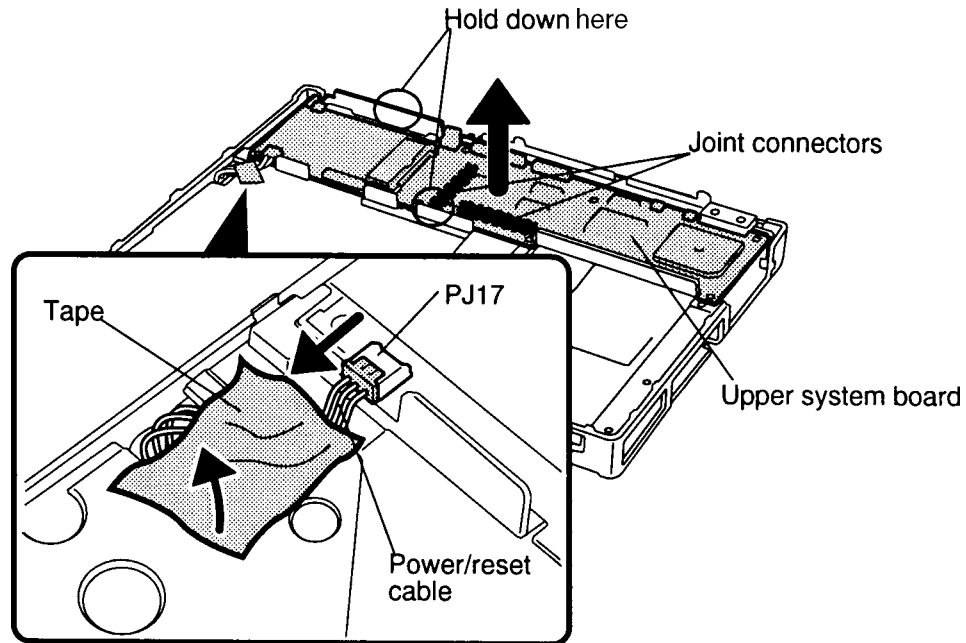

Figure 4-26 Removing the upper system board
5. Remove the **tape** securing the **power/reset cable** and disconnect the cable from **PJ17** on the **upper system board** (Figure 4-26).
7. Hold down the system board's edges circled in Figure 4-26 and carefully lift up the **upper system board** to disconnect **two joint connectors** that connect the upper system board to the lower system board.
2. Turn the **upper system board** over and place it on the lower system board aligning the **two joint connectors (PJ11 and PJ12)**, then gently press the upper system board into place (Figure 4-26).
3. Connect the **power/reset cable** to **PJ17** on the upper system board and secure it with **tape** (Figure 4-26).